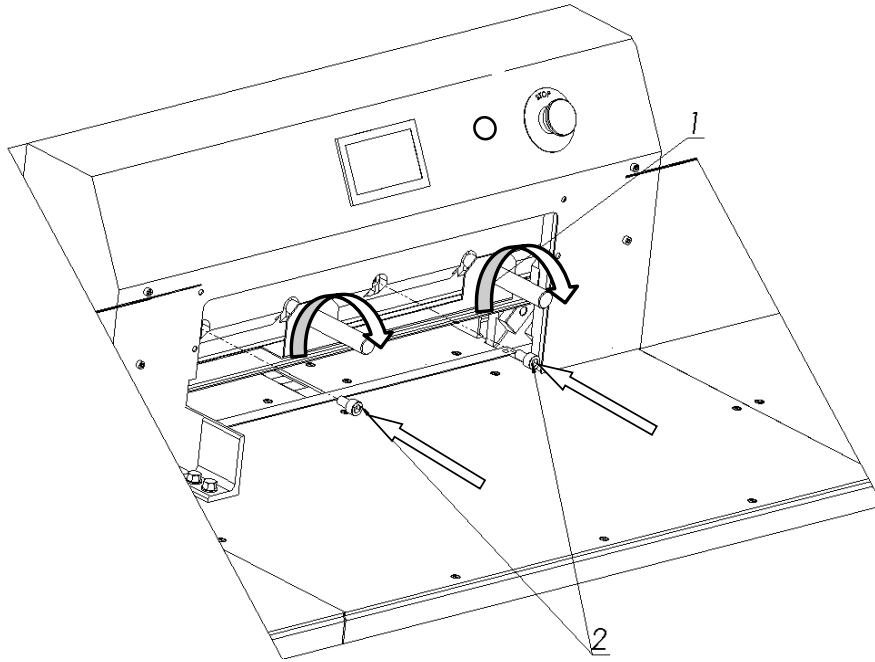
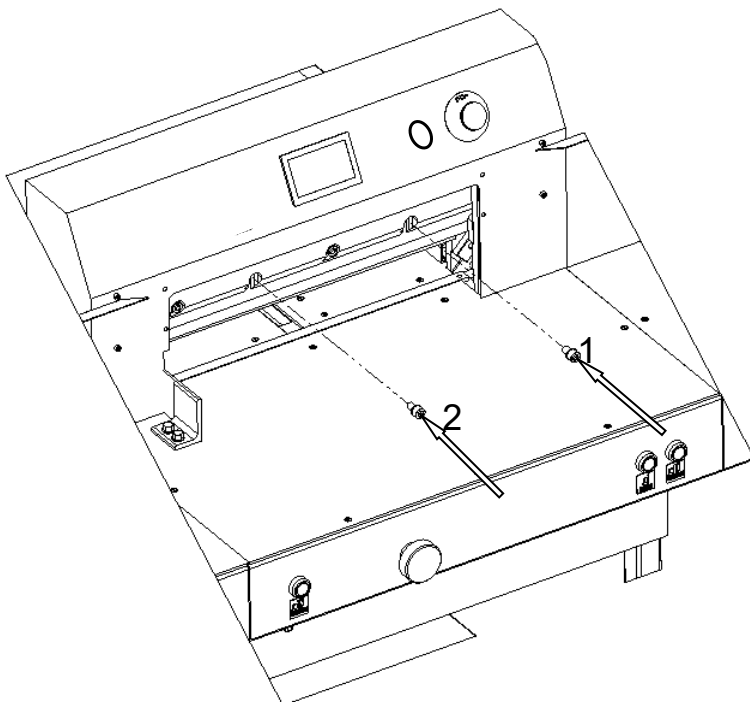

Figure 31.
Figure 32.
**8.1.2.4** Pre-attach the knife to the cutter bar by turning both transporting handles 1 to the right (fig. 31).
**8.1.2.5** Install the fastening screws 2 (fig. 31).
**8.1.2.6** Unscrew both transport lugs 1 (figure 31) and replace them with the mounting screws 1 and 2 (fig. 32).
**8.1.2.7** Slightly unscrew the first screw on the left side of the clamping screw 2 (Fig. 31), taking care that the screw head does not protrude above the knife beam sliding plane.
**8.1.2.18.** Firmly tighten the first screw on the left side of the knife. 2 (Fig. 31).